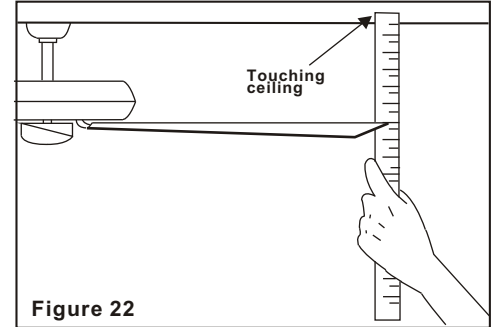

Figure 22
2. Most fan wobbling problems are caused when blade levels are unequal. Check this level by selecting a point on the ceiling above the tip of one of the blades. Measure this distance. (Fig. 22) Rotate the fan until the next blade is positioned for measurement. Repeat for each blade. The distance deviation should be equal within 1/8".